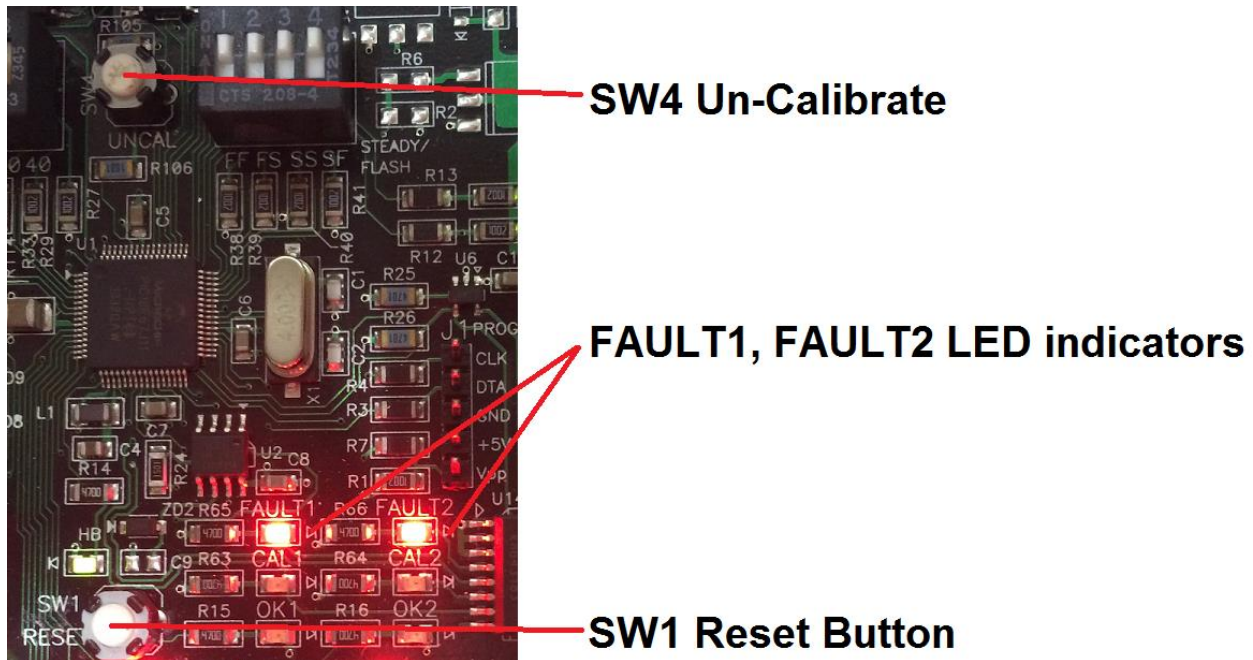

Figure 6 – Controller Calibration
- Calibrating the Current Sensors, Figure 6
- b. Push and hold the SW4 Un-Calibrate button (figure 6)
- c. When the red FAULT1 and FAULT2 indicator LED's (figure 6) on the driver board light, release Un-Calibrate button
- d. Press the SW1 RESET button to finish calibration sequence. (figure 6)